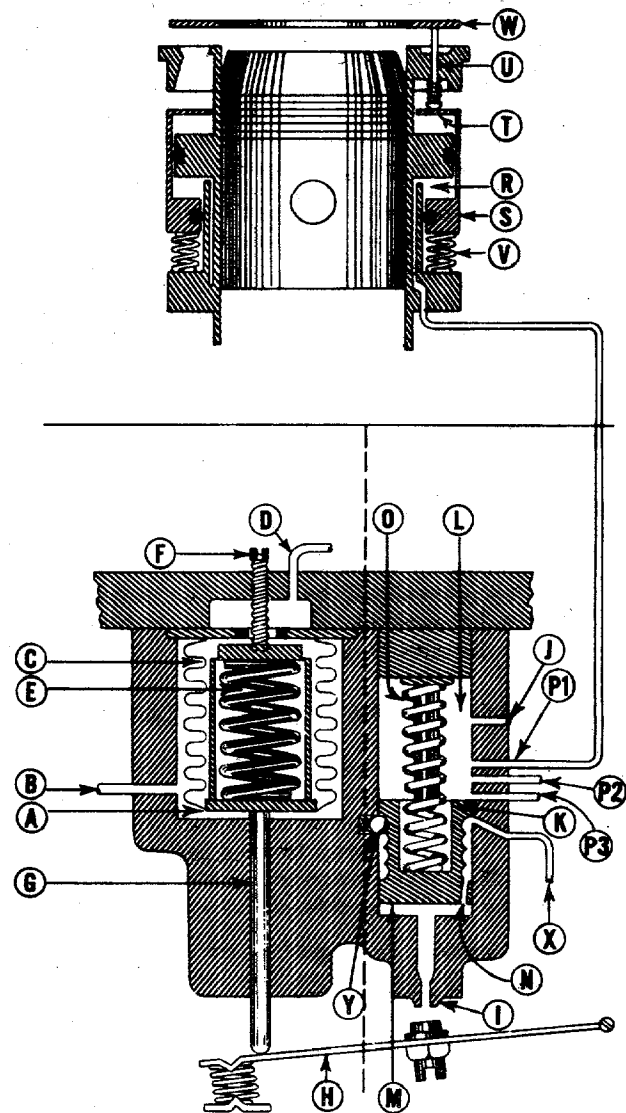

FIG. 10 Schematic Drawing of Cylinder Unloading Mechanism (Unloaded)
When full compressor capacity is not required, regulated orifice (I) is opened through movement of lever (H). Oil bleeds through it, and pressure within the lower chamber approaches crankcase pressure, as shown in Figure 10. Under these circumstances, the force of spring (O) overcomes the pressure in the lower chamber and floating piston (K) is moved downward so that the lines P1, P2 and P3 become connected in sequence to the crankcase pressure through orifice (J). The spring loaded ball (Y) permits the piston to move only in distinct increments, one groove at a time.
lift pins (U) move with it. This permits the suction valve (W) to function normally and the cylinder operates to full capacity. When the compressor is to operate at less than full capacity (Figure 10), oil line P1 from the cylinder unloader mechanism is connected to the crankcase pressure through orifice (J) which allows the pressure in the annular chamber (R) to dissipate. The cylinder unloader springs (V) expand, lifting the unloader piston (S). This raises the takeup ring (T), the valve lift pins (U), and holds the suction valve (W) open so that the controlled cylinder is operating in an unloaded condition.